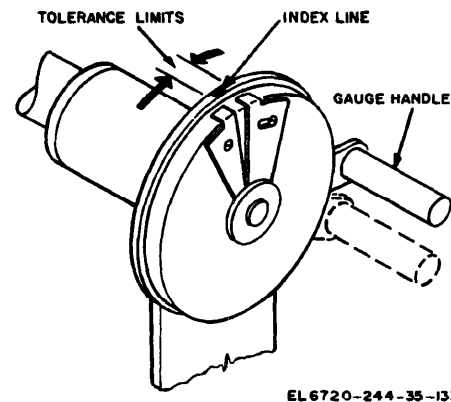

Figure 6-19. Takeup spool friction tolerance indications.
(1) Attach the adapter to the gauge and insert the assembly into the camera takeup spool.
(2) Rest the camera housing against the gauge bottom plate.
(3) Turn the gauge handle and rotate the takeup spool. Check that the torque required to overcome the takeup friction is not more than  $\pm$  one index line width on the torsion tolerance gauge (fig. 6-19).